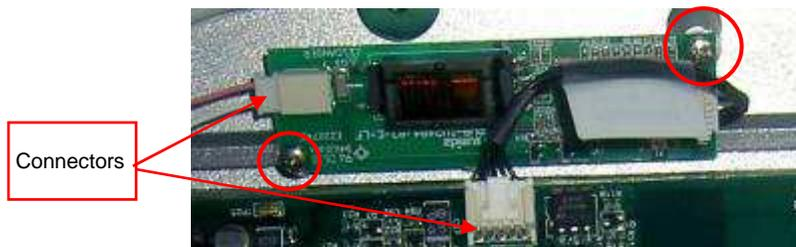

Figure 26: Backlight PCB
4. Release all connectors from the Pheripherals to the Backlight PCB and remove all screws (Figure 26).